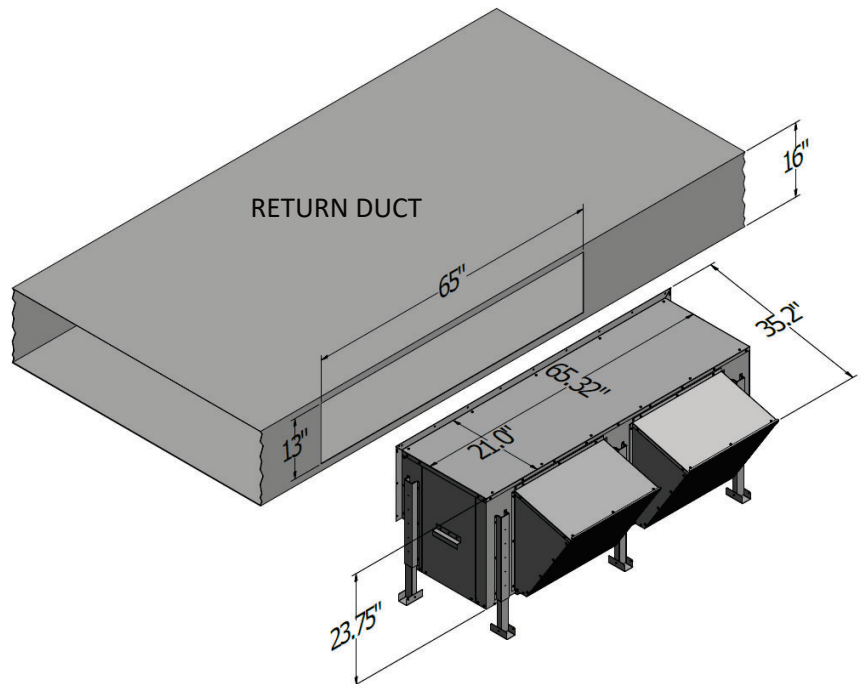

Figure 1
6. Slide the support legs through the guides, see Figure 1.